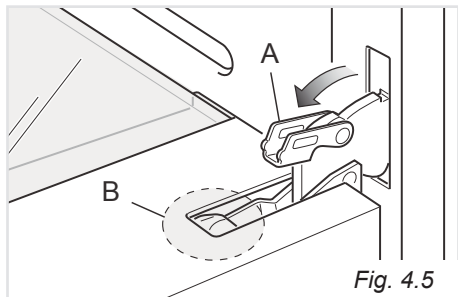
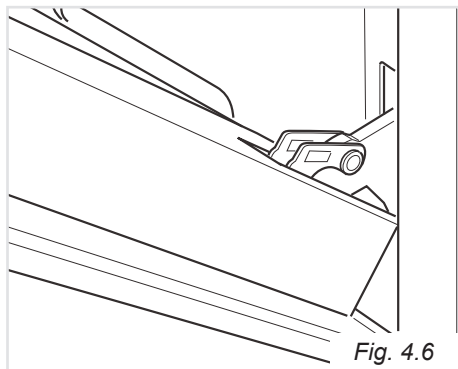

Fig. 4.5
Fig. 4.6
- Open the lever "A" completely on the left and right hinges (Fig. 4.5).
- Gently close the door (fig. 4.6) until left and right hinge levers "A" are hooked to part "B" of the door (fig. 4.5).
- Open the lever "A" completely on the left and right hinges (fig. 4.5).
- Gently close the door until left and right hinge levers "A" are hooked to part "B" of the door (figs. 4.5, 4.6).
1. Make sure the door is locked open (see fig. 4.6).